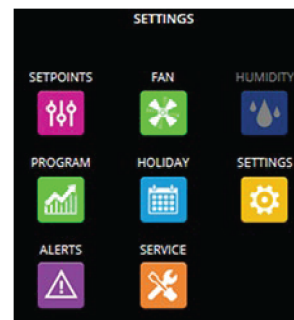

Fig. 20 — Settings Screen
3. Swipe or click to navigate to the **SETTINGS** screen. See Fig. 20.